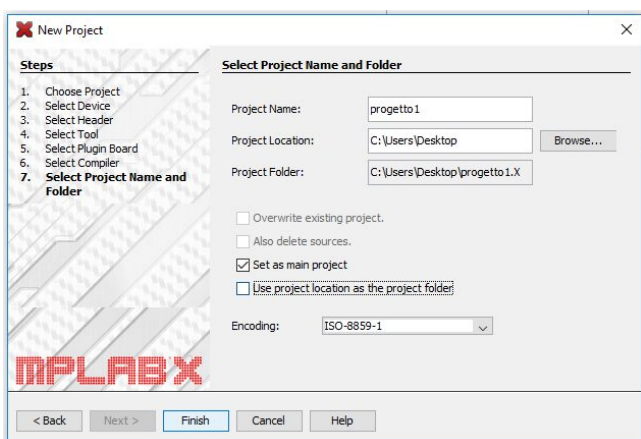

Figura 11
Step 7_ *Select Project Name and Folder* (figura 11)